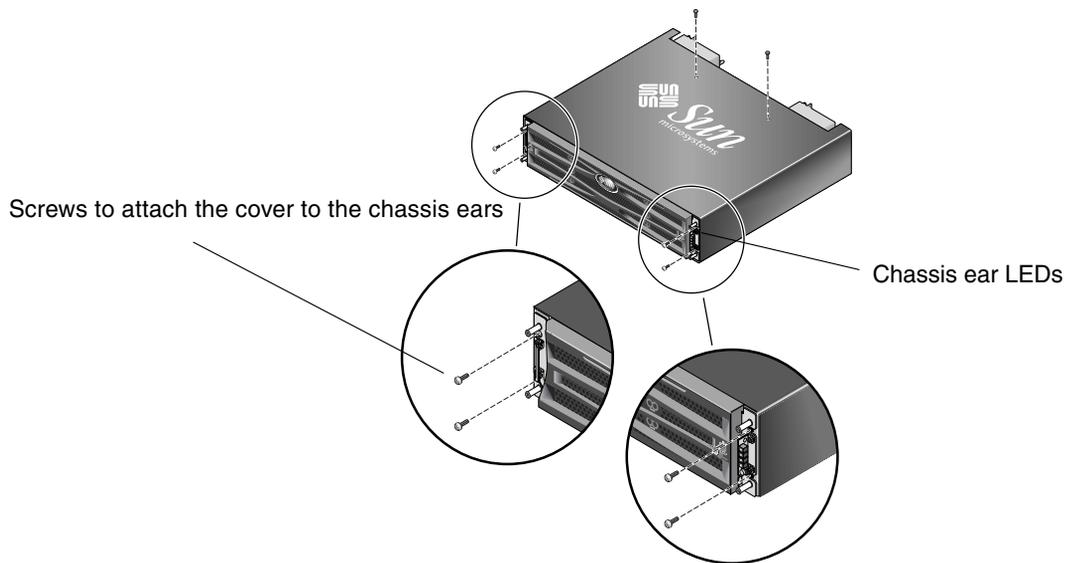

FIGURE 2-7 Attaching the Chassis Ears to the Tabletop Cover
6. **Loosely attach the front of the tabletop cover to the front ears of the array with two 10-32 x 1/4-inch Phillips panhead screws on each side (see FIGURE 2-7).**